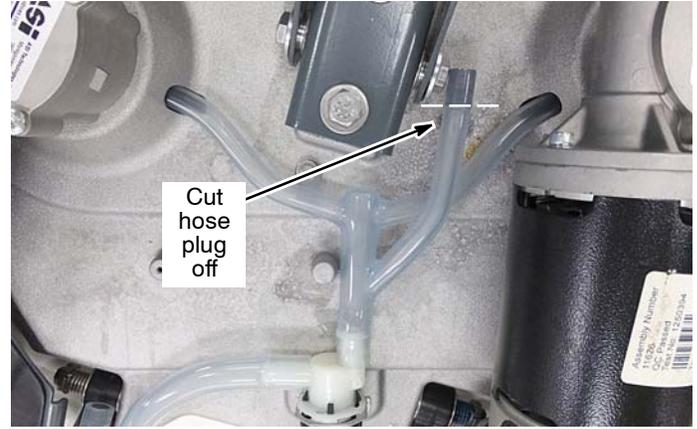

Fig. 25
2. Cut the hose plug off from the manifold hose as shown (Figure 25).
3. Re-install the scrub head on machine with four pins (Figure 25). Reconnect brush motor wire connectors, solution hose connection, solution valve wires and ground wire to scrub head.